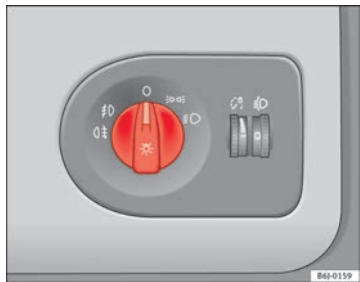

Fig. 53 Detailed view of the dash panel: lights, fog lights and rear fog light switch
- Turn the light switch  $\Rightarrow$  fig. 53 to position  $\Rightarrow$ .